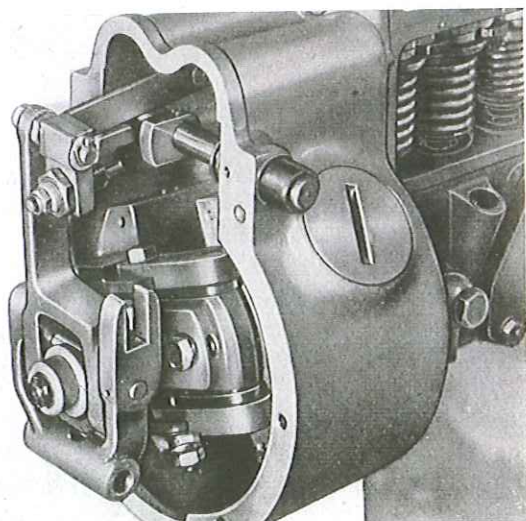

Fig. 28. - Removing the governor housing cover.
Before taking down the cover from the governor housing (fig. 28) unscrew the two fastening screws and remove the pivot pin of the link fork (11).